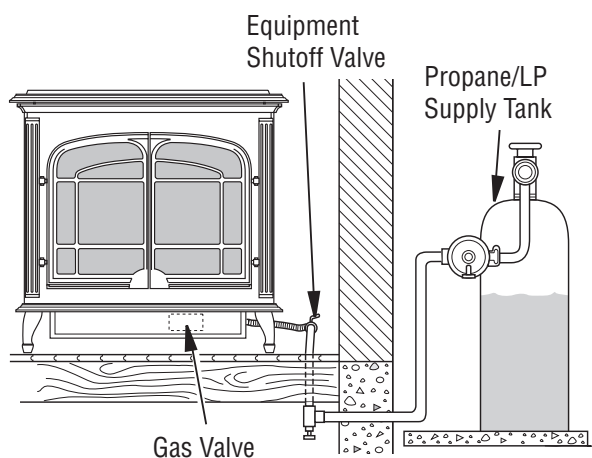
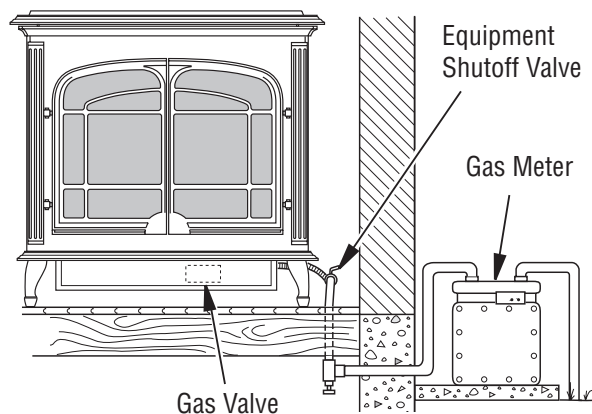

Figure 18 - Checking Gas Joints for Propane/LP Gas Burner System
Figure 19 - Checking Gas Joints for Natural Gas Burner System
3. Check all joints from propane/LP supply tank or gas meter to equipment shutoff valve (see Figure 18 for propane/LP or Figure 19, for natural gas, page 17). Apply noncorrosive leak test solution to all gas joints. Bubbles forming show a leak. Correct all leaks at once.
4. Check all joints from equipment shutoff valve to thermostat gas valve (see Figure 18 for propane/LP or Figure 19 for natural). Apply commercial leak test solution to all gas joints. Bubbles forming show a leak. Correct all leaks at once.